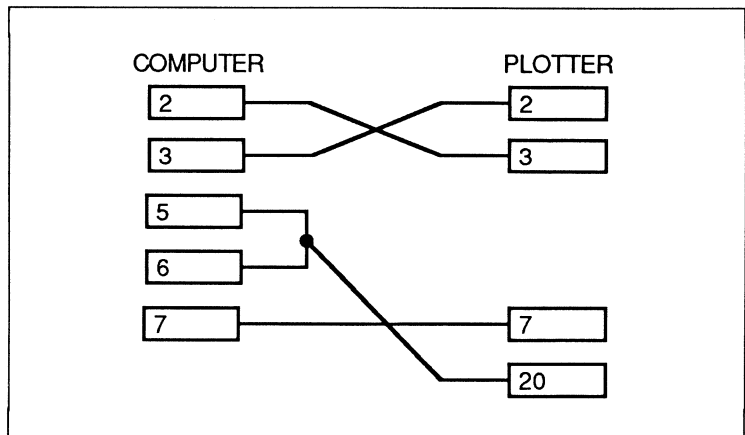
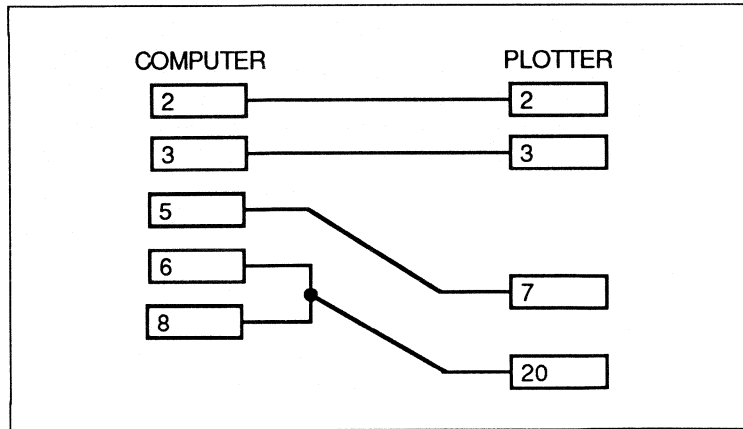
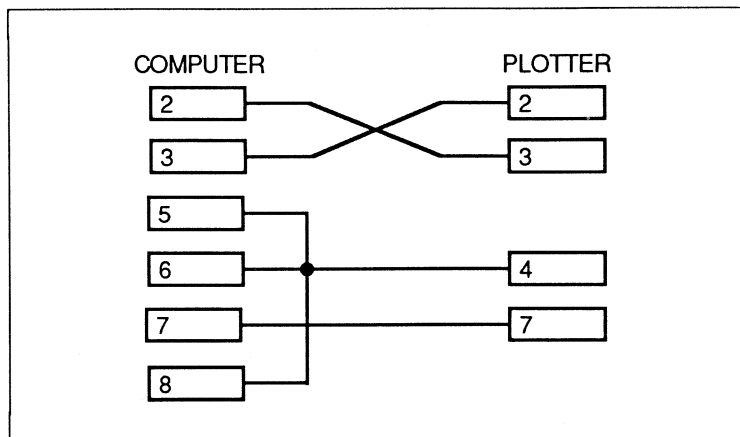

Figure D-1. 25-pin cable wiring diagram.
Figure D-2. 9-pin cable wiring diagram.
Figure D-3. 25-pin cable to I/Oline plotter.
Figure D-1 is a wiring diagram showing the connections necessary to connect a 25-pin connector to a plotter. Figure D-2 is a wiring diagram showing the connections necessary to connect a 9-pin connector to a plotter. Figure D-3 is a wiring diagram showing the connections necessary for a 25-pin connector to an IOline plotter.
1. Wire the cable as shown in Figures D-1, D-2, and D-3. If your plotter works with another software package, and does not work with OrCAD, the first item to check is the wiring of your cable. Chances are the other CAD packages only require the TXD and RXD signal lines. OrCAD requires additional connections.